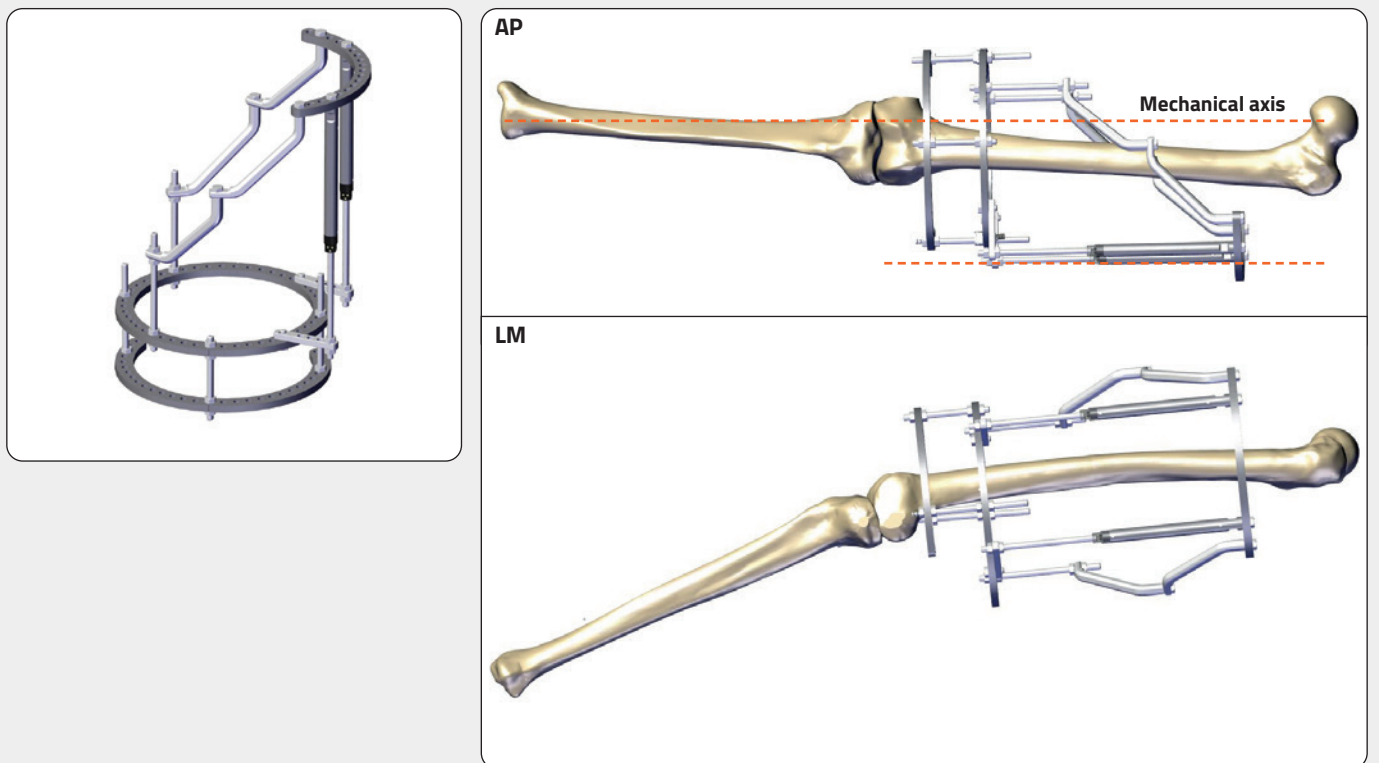

Fig. 2
- Build femoral ring blocks Fig. 2.